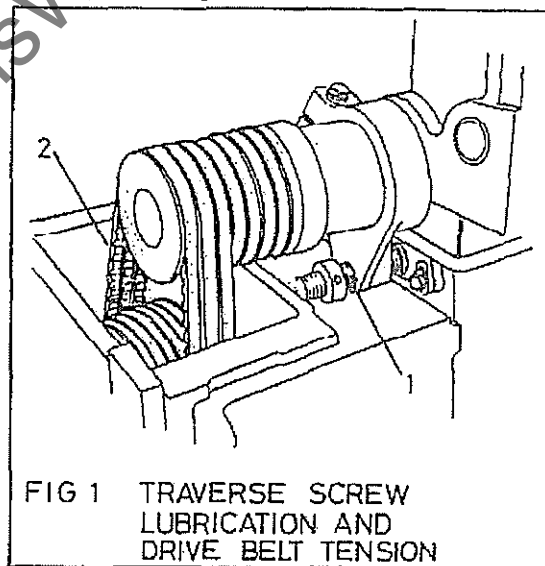

FIG 1 TRAVERSE SCREW LUBRICATION AND DRIVE BELT TENSIONING (Fig 2)
Three Monthly (Fig 1)
- 2) Remove cover to expose spindle pulley and belts (Fig 1).
- 3) Slacken off motor mounting plate bolts (1).
- 4) Tension belt by slackening the top locknut (2) and turning the bottom locknut (3) in an anti-clockwise direction.
- 5) When tensioned lock up both nuts (2 and 3) and motor mounting bolts (1). Refit cover and engage power